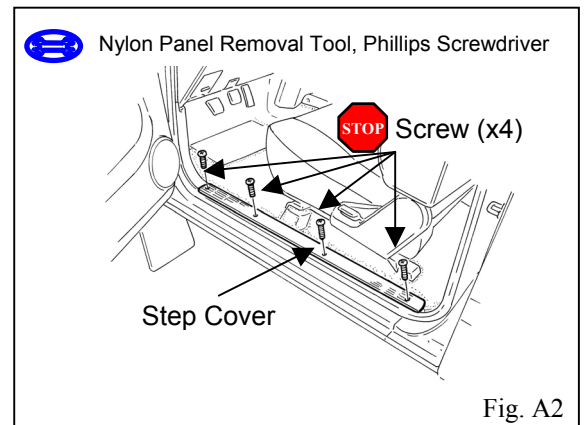

Fig. A2
2. Remove the driver side step cover. (Fig. A2)